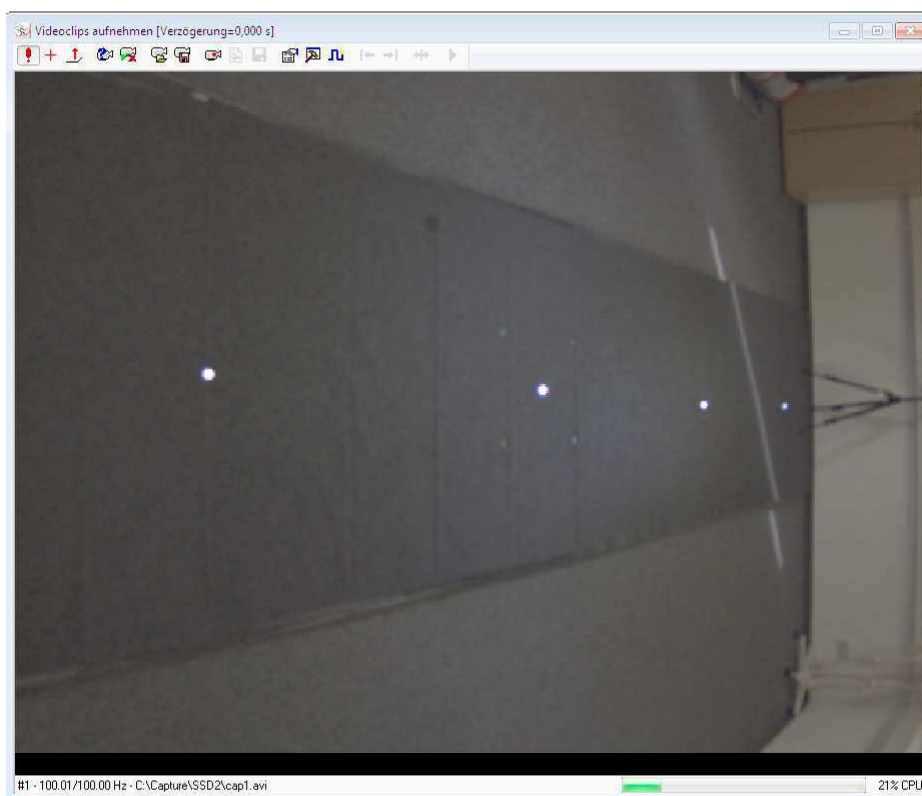

Figure 17.8: Rotated camera with a marker in the field of view
2. If needed, e.g. to record the walkway completely, it is recommended to rotate the camera 90° using the tripod (cf. figure 17.8)
3. During setup place a marker into the field of view respective movement area to assure the correct marker recognition (cf. figure 17.8).